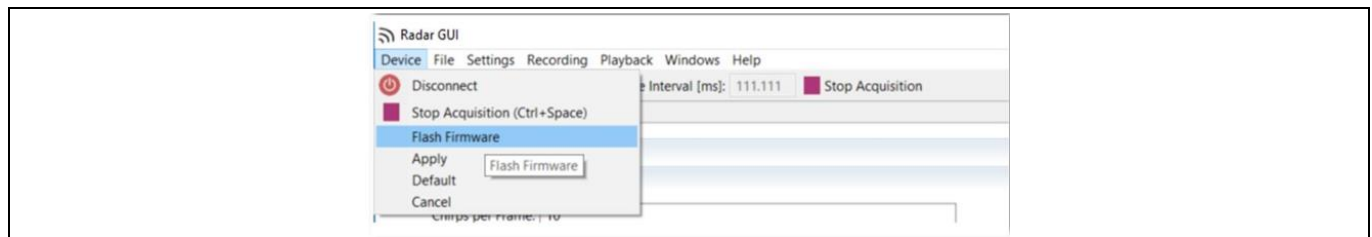

Figure 16 Flash firmware menu in Radar GUI
- In addition to XMCT™ Flasher, Radar GUI offers firmware flashing capability as well. In order to flash a new (*.hex) file (e.g., P2G_FW.hex), simply go to Device tab in Main Menu and select **Flash Firmware** option, as shown in Figure 16.